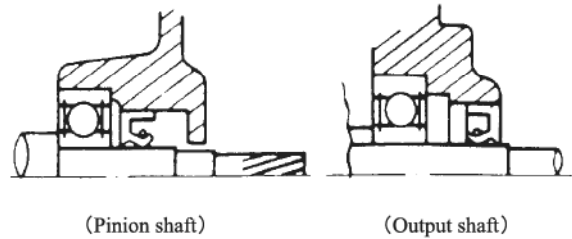

Fig.11. Oil seal insertion Method
- (2) Observe the oil seal insertion direction shown in Fig.11. If the oil seal is inserted in the opposite direction, oil may leak from the Gearedmotor.